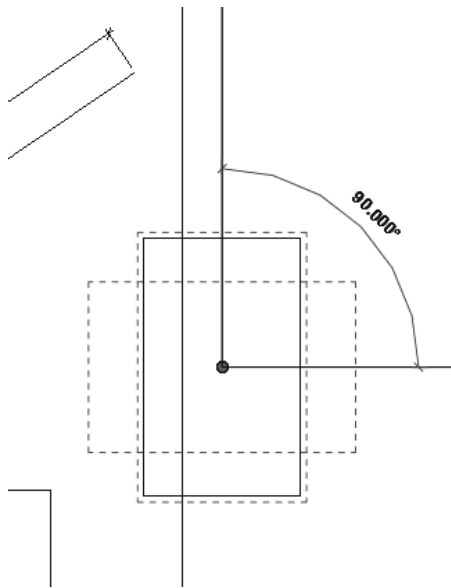

FIGURE 3-3.7 Rotate tool; last step – select angle visually or type angle
16. Move the mouse up and to the left until 90 degrees is displayed and then click to complete the rotation (Figure 3-3.7).